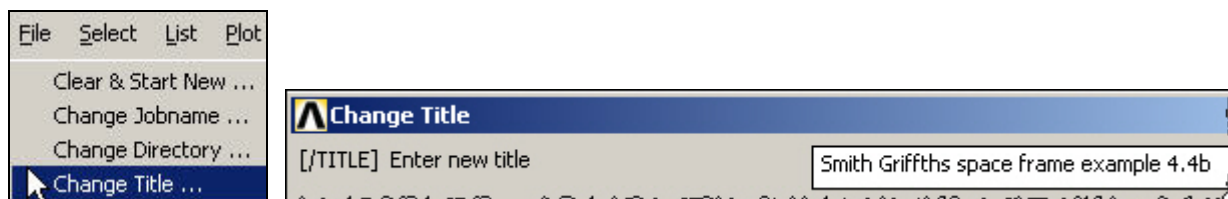

Figure 3 Provide a descriptive title
2. **Change Title**, enter a descriptive title, **OK** (see Figure 3).